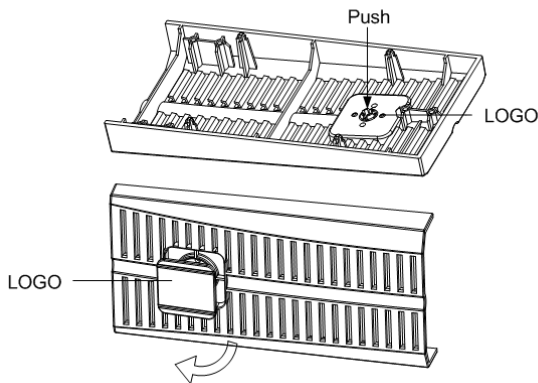

Fig.4-5 Rotate it 90 degrees clockwise and snap it back into position
3. Pull the LOGO on the front plastic bezel cover gently, rotate it 90 degrees clockwise and snap it back into position. After rotation, the front plastic bezel cover is shown in Fig.4-5.